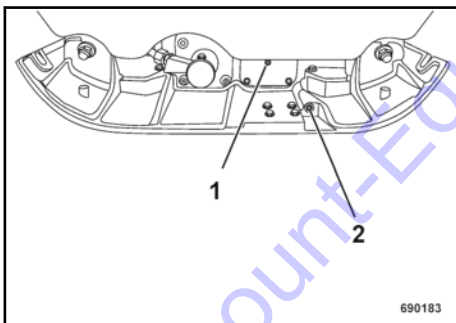

Fig. 55
Clean oil drain (2) ↗ Fig. 55 and bleeding screw (1) and assemble both screws with sealing compound (e.g. BOMAG part-no. 00970016).